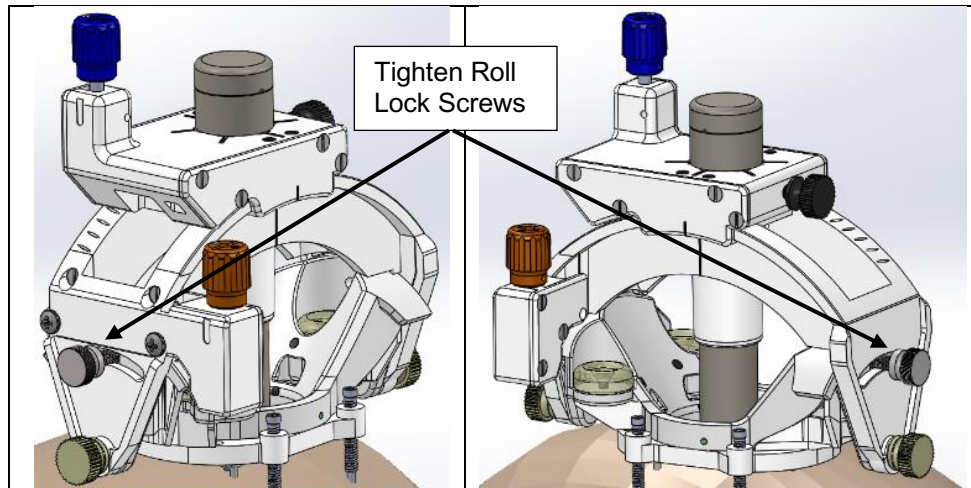

Figure 12: Roll Lock Screws tightened onto SMARTFrame Array Tower
8. Tighten the two Roll Lock Screws fully. **See Figure 12.**